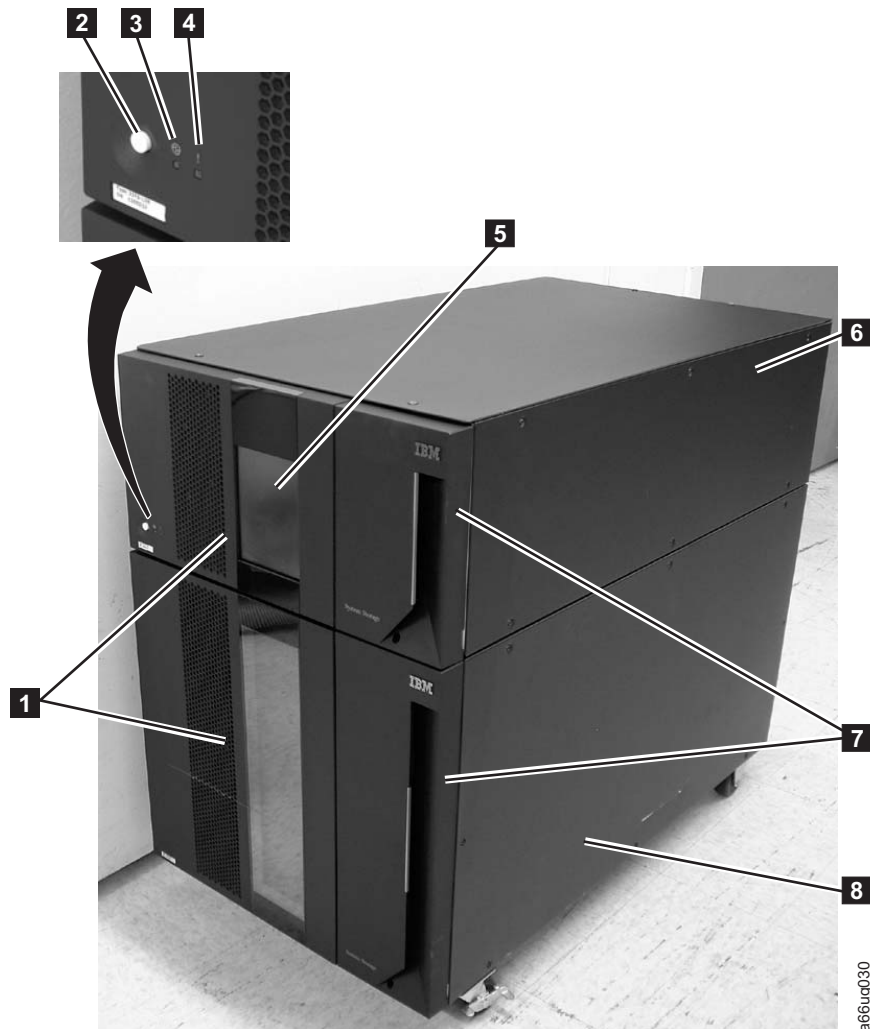

Figure 1-1. Front panel of a 14U library
All library configurations include the control module ( **6** in Figure 1-1). The control module contains the robotics, library control blade (LCB), and touch screen display. The control module also contains an I/O station, fixed storage slots, tape drives, and at least one power supply.
Each 9U expansion module ( **8** in Figure 1-1 on page 1-2) is a supplementary module that is attached to the 5U Control Module. Like the control module, the expansion modules provide fixed storage slots, tape drive slots, and power supply slots. The I/O station in an expansion module can be configured as storage.
I/O Stations (7 in Figure 1-1 on page 1-2) are located on the front panel of the library and enable the importing and exporting of cartridges without interrupting normal library operations. A control module I/O Station has a capacity of six cartridges. A 9U expansion module I/O Station has a capacity of 12 cartridges.
This door is locked by the I/O Station. To open the Access Door ( **1** in Figure 1-1 on page 1-2), you must first open the I/O Station.
The Operator Panel ( **5** in Figure 1-1 on page 1-2) is the touchscreen display device located on the Access Door of the control module. Library operations and service functions are performed from this screen.
Pressing the Power Button ( **2** in Figure 1-1 on page 1-2) on the front panel of a control module turns the Picker and Operator Panel ON or OFF; however, power is still applied to the power supplies. The Power Button is used during library shutdown and to manually reboot the library.
- Green power ON LED ( **3** in Figure 1-1 on page 1-2): When lit, this LED indicates that the library power is ON.
- Amber Operator Intervention Alert LED ( **4** in Figure 1-1 on page 1-2): When lit, this LED indicates that there is a Library, Drives, or Media Operator Intervention available. To access the Operator Intervention, select **Tools** → **Operator Intervention** from the Operator Panel.